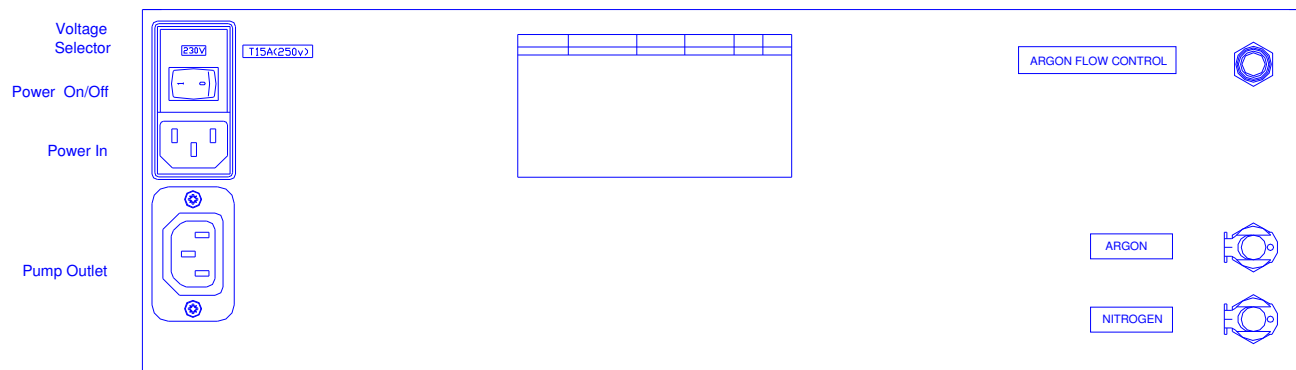

Figure 2
6.2 Rear Panel diagram (Figure 2)